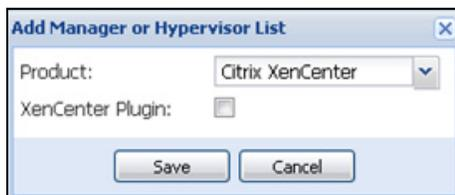

Figure 130. Add Manager or Hypervisor List Dialog
- In the virtualization panel, check the box “XenCenter Plugin” to install XenCenter Plug-in (see Figure 130).